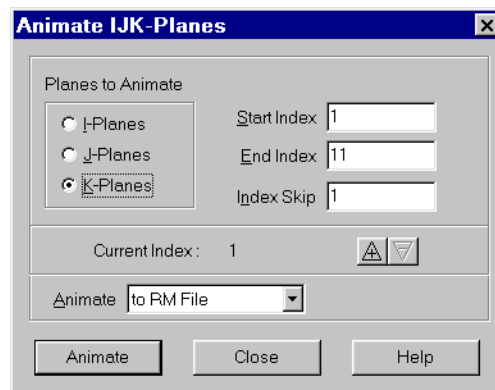

Figure 30-4. The Animate IJK-Planes dialog.
1. From the Tools menu, choose Animate, then choose IJK-Planes. The Animate IJK-Planes dialog appears, as shown in Figure 30-4.